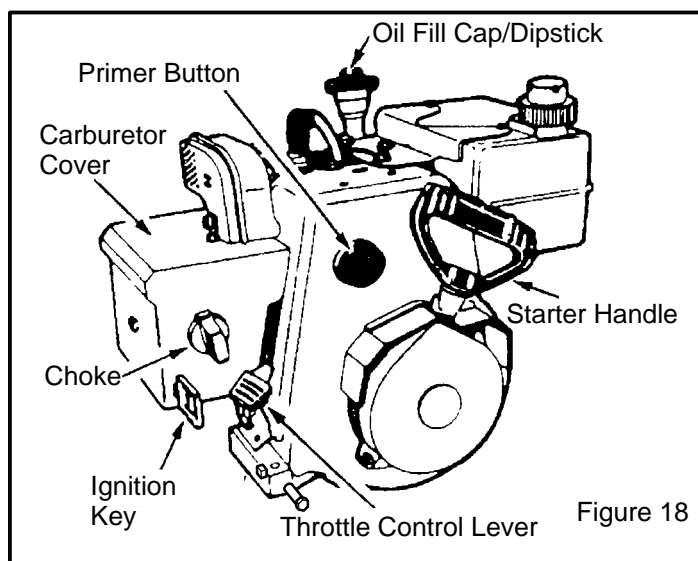
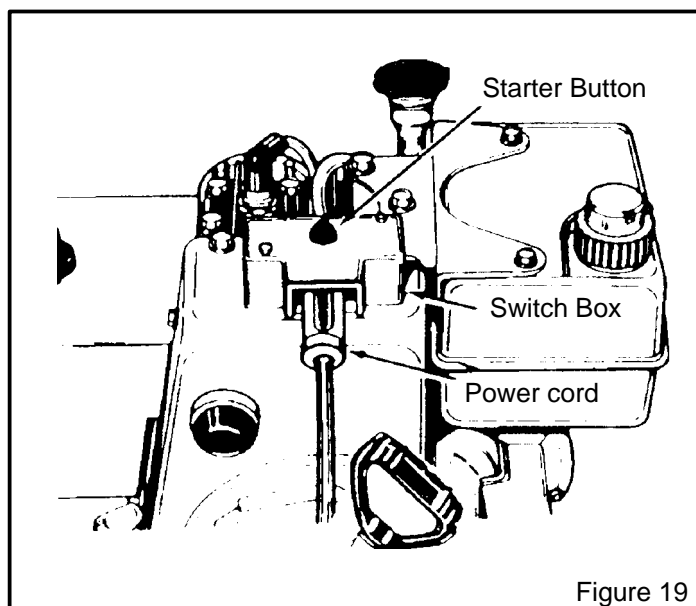

Figure 18
Figure 19
COLD ENGINE START (ELECTRIC STARTER) (SEE FIGURE 18 AND FIGURE 19)
3. Insert key into ignition slot. Make sure it snaps into place (Figure 18). Do not turn key.
5. Connect POWER CORD to SWITCH BOX (Figure 19).
- a. Push STARTER BUTTON (Figure 19) to engage starter motor and crank engine.
5. Connect the POWER CORD to the SWITCH BOX (Figure 19).